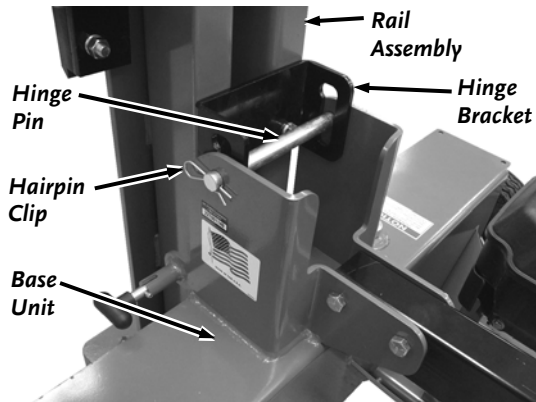

Figure 10
7. Attach the base unit and the rail assembly together by installing the hinge pin and hairpin clip (**Figure 10**).